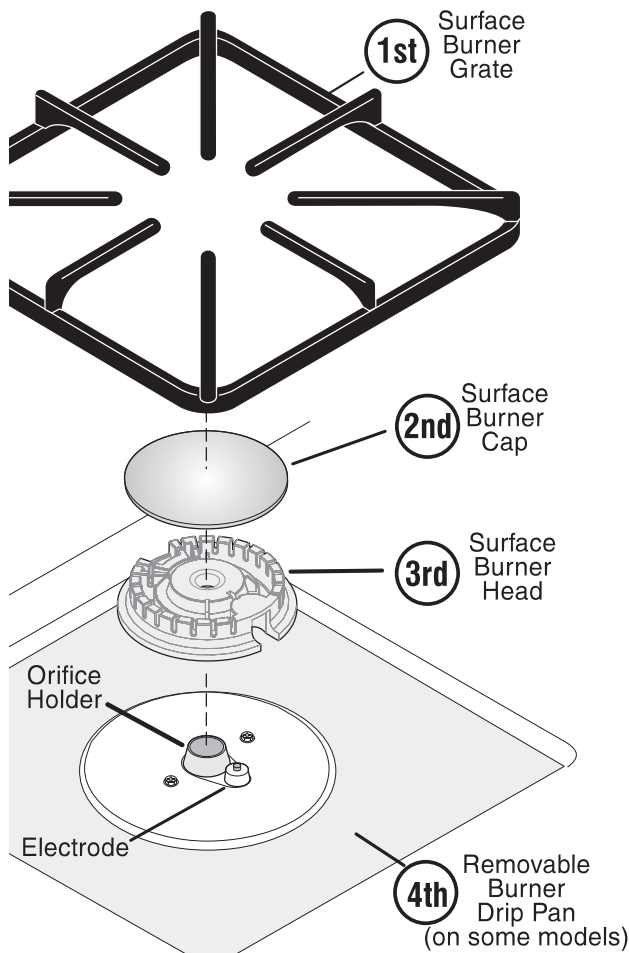

Figure 6
- Remove the top grate and burner cap (See Figure 6).